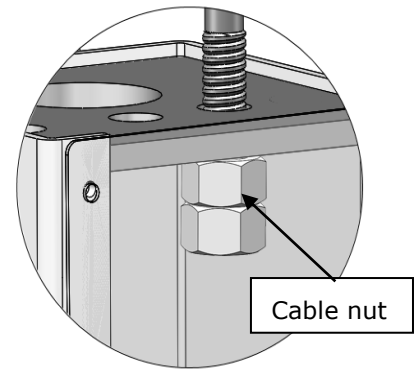

Fig. 41
1. Adjust the equalizing cable (See Fig. 41)